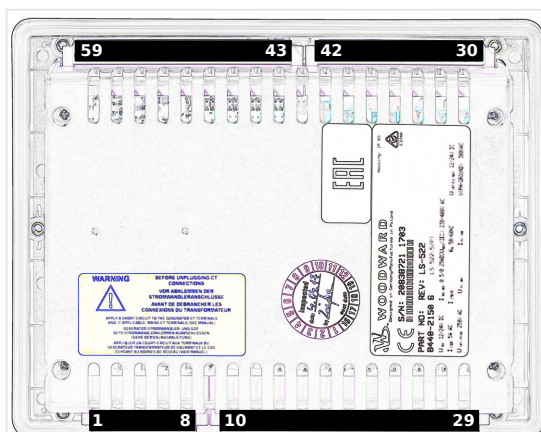

Fig. 18: Plastic housing (rear view)
- Plastic housing - shown in ↪ Fig. 18